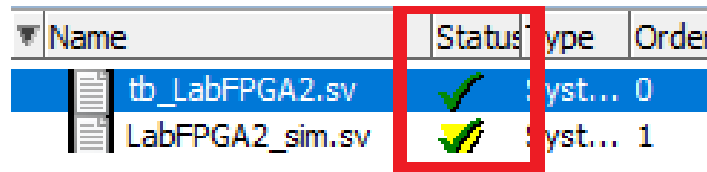

Figure 10. Compile Status
28. ModelSim will compile the files. If there are no syntax errors, the status icon will change from a question mark to a checkmark. Otherwise, an “X” will appear indicating a compilation error. Verify that both files show a **checkmark** under the Status column, as illustrated in Figure 10.